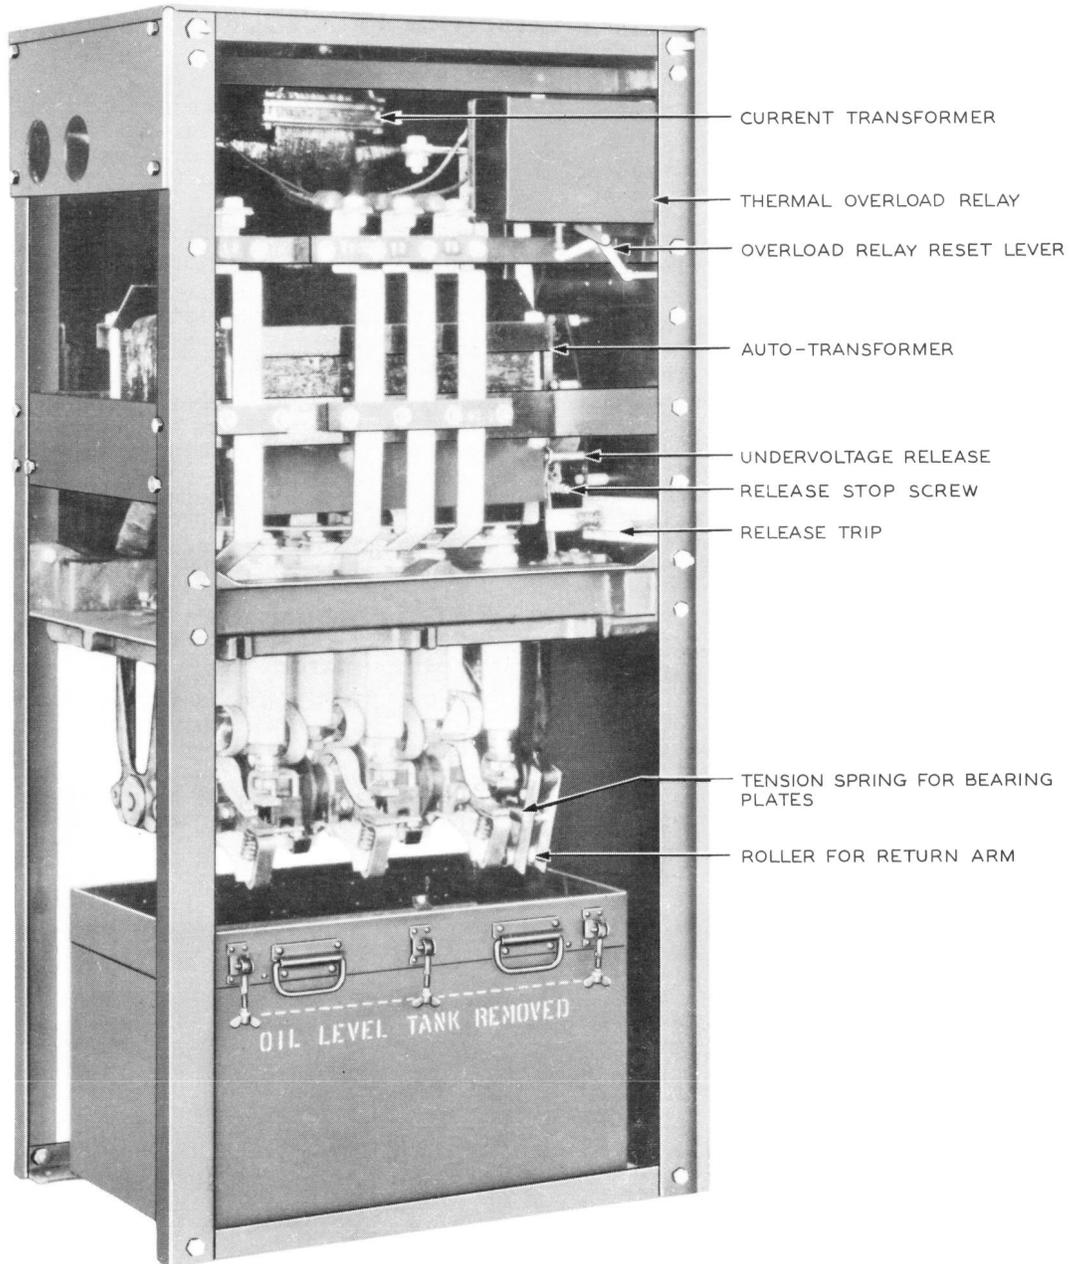

Fig. 1 - KS-5310 Manual-type AC Starter (Form K22
3.13 To replace a current transformer on the K22 starter shown in Fig. 1, be sure the ac service is disconnected ahead of the starter. Note the position of the connections on the transformer and remove them, being careful not to drop any of the washers or nuts. The transformers may then be released individually by removing the nut from the transformer bracket. Replace in the reverse order.
4. To revise titles of Fig. 1, 6, 7, 11, and 12.